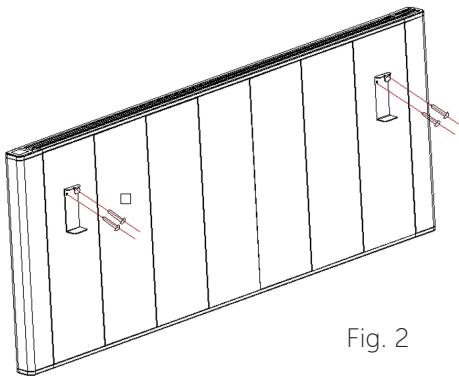

Fig. 2
1. Fix the hanging plates to the back of the heater using two ST4*10mm for each plate, see fig. 2.